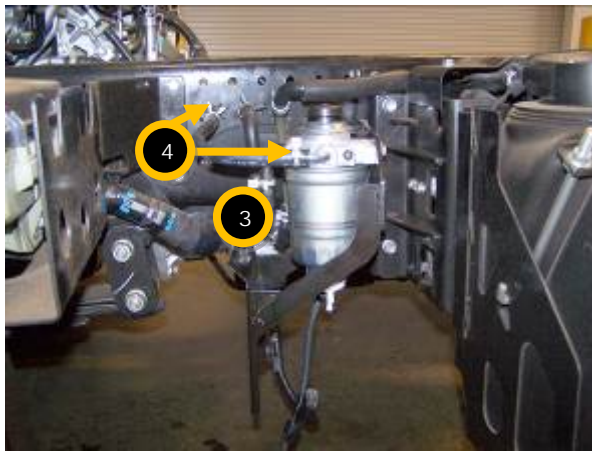

Figure 11 – Install Assembly and Torque Specifications
2. Mount the new filter/bracket assembly on to the vehicle chassis bracket and torque as follows (see Figure 11).